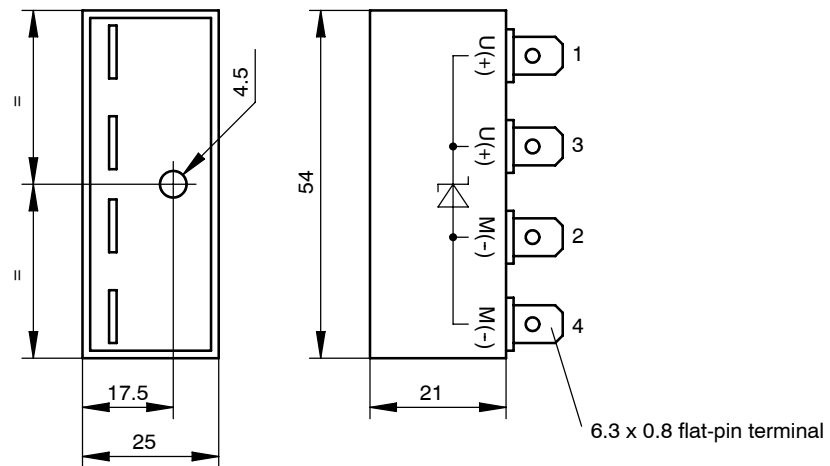

Figure 27 Ports and Dimension Drawing of the OVP 2480
- ❑ OVP 2480 (Figure 27) in a cast plastic chassis for 25 A, to be screwed to a level surface